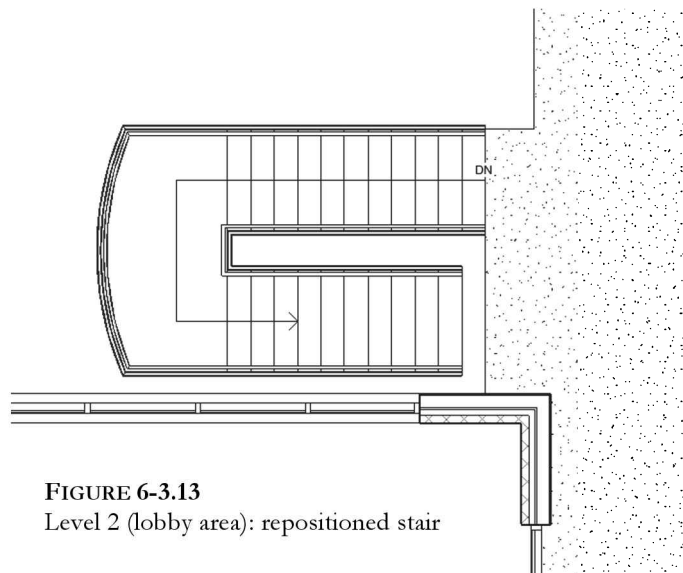

FIGURE 6-3.13
31. Select the lobby stair and use the **Move** tool to reposition it as shown in Figure 6-3.13.